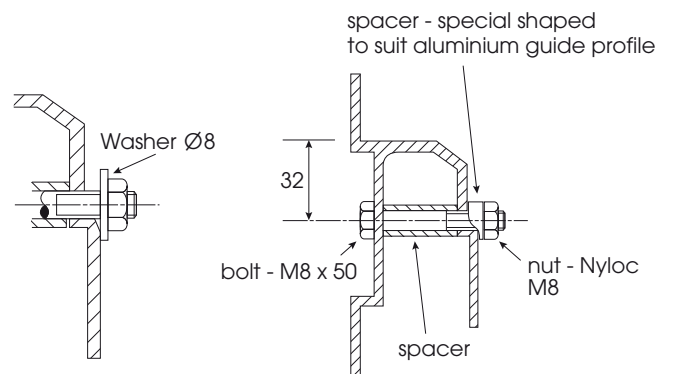

Fig: 2.6.5
- a) Slide bars through guide slot, then back, onto lock arms. Screw on securely using 4mm x 6mm screws supplied. For bottom rails with shoot bolt locking refer to Fig 2.6.5.